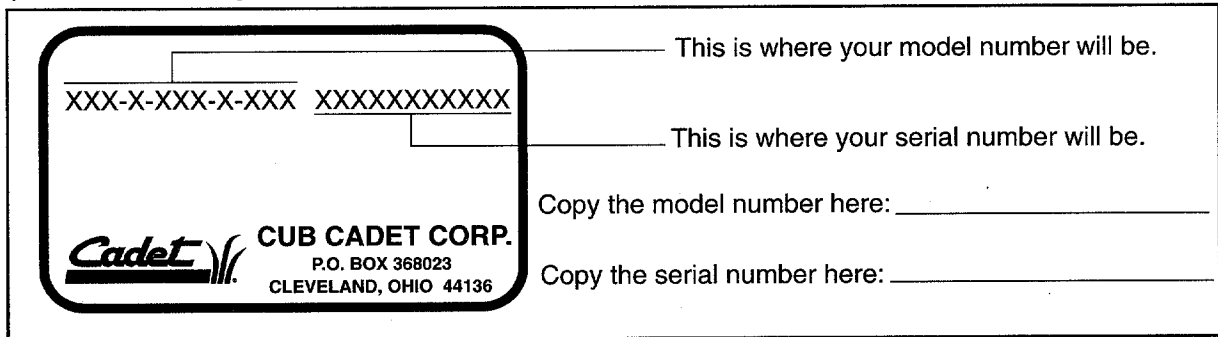

Figure 1
- Every walk behind mower has a model plate. You can locate it by standing behind the unit in the operating position and looking down at the rear of the deck. An example of the model plate is shown in Figure 1.